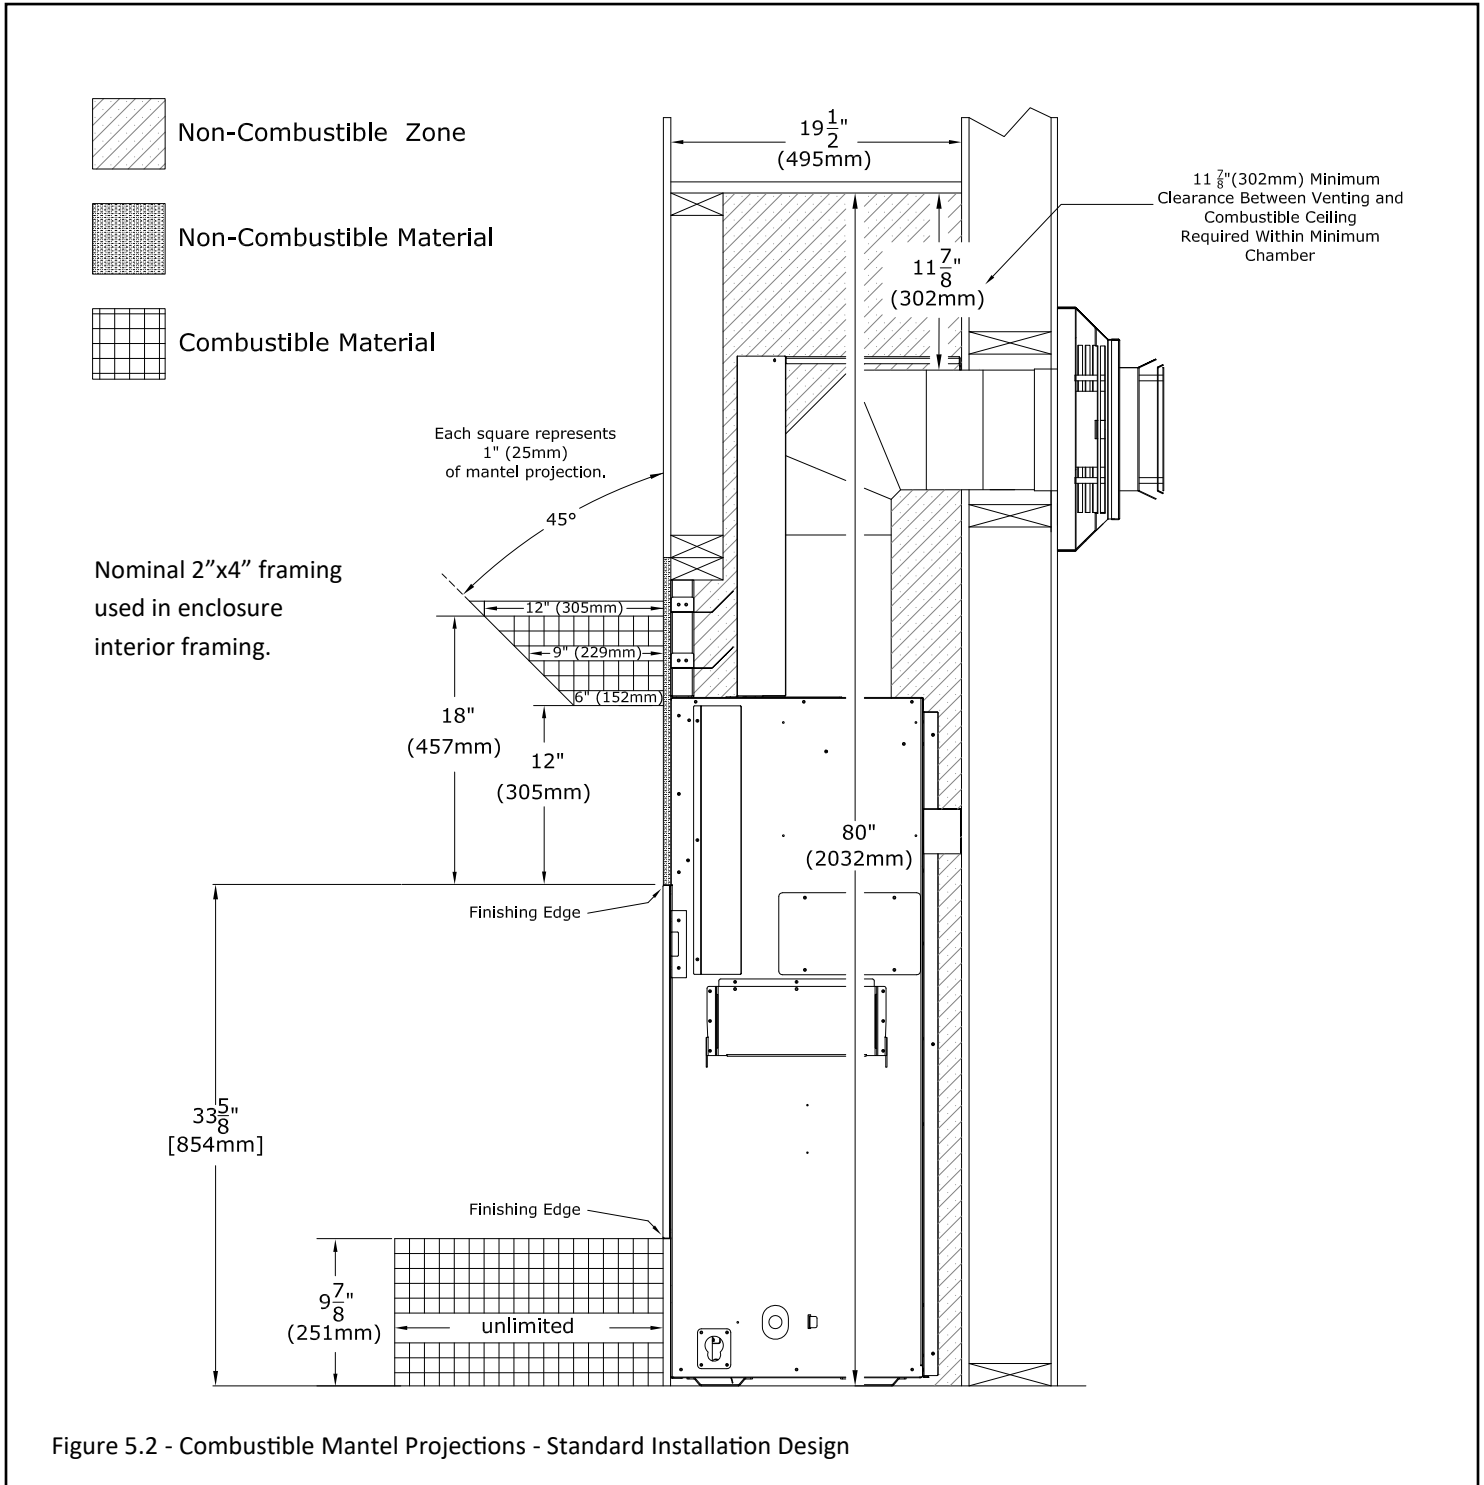

Figure 5.2 - Combustible Mantel Projections - Standard Installation Design
- **Combustible Mantel Projections:** As referenced in FIGURE 5.2 the 6" (152mm) mantel starts at 12" (305mm) above the top finishing edge. Mantel projections can increase 1" (25mm) of depth for every 1" (25mm) of height starting at the 6" (152mm) mantel.
Figure 5.2 shows a 6" combustible mantel projection starting 12" up from the top finishing edge of the fireplace. The dimensions shown are allowed in standard installation scenario. Mantel projections can increase 1" (25mm) of depth for every 1" (25mm) of height starting at the 6" (152mm) mantel. A combustible hearth is allowed with unlimited projection starting flush at the bottom finishing edge of the fireplace.